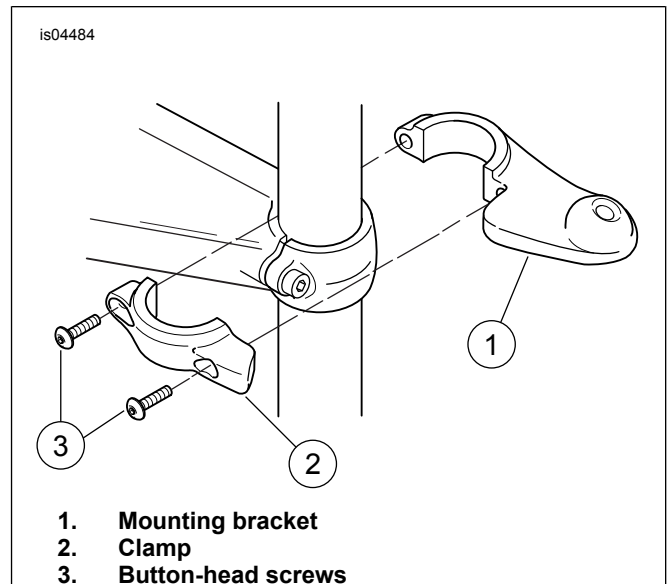

Figure 1. Install Mounting Bracket to Fork Tube
3. See Figure 1. The mounting brackets (1) and clamps (2) are side-specific. Select the right side or left side bracket and clamp, and install on the fork tube using two button-head screws (3) from the kit. Tighten the outer screw first. Tighten screws to 8–9 N·m (70–80 in-lbs).